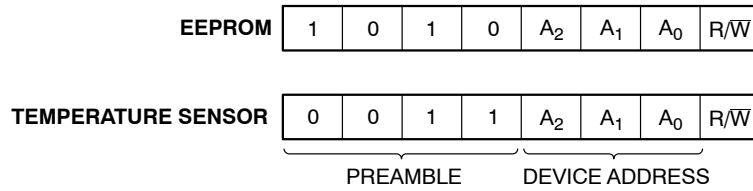

Figure 12. Slave Address Bits
The Master initiates data transfer by creating a START condition on the bus. The Master then broadcasts an 8-bit serial Slave address. The first 4 bits of the Slave address (the preamble) select either the Temperature Sensor (TS) registers (0011) or the EEPROM memory contents (1010), as shown in Figure 12. The next 3 bits, A2, A1 and A0, select one of 8 possible Slave devices. The last bit, $R/\overline{W}$, specifies whether a Read (1) or Write (0) operation is being performed.